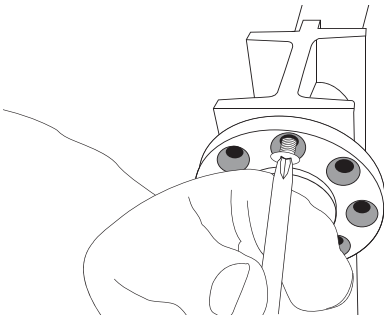

FIGURE 11
1. Unscrew and remove the adjustment plate screws (Fig. 11).